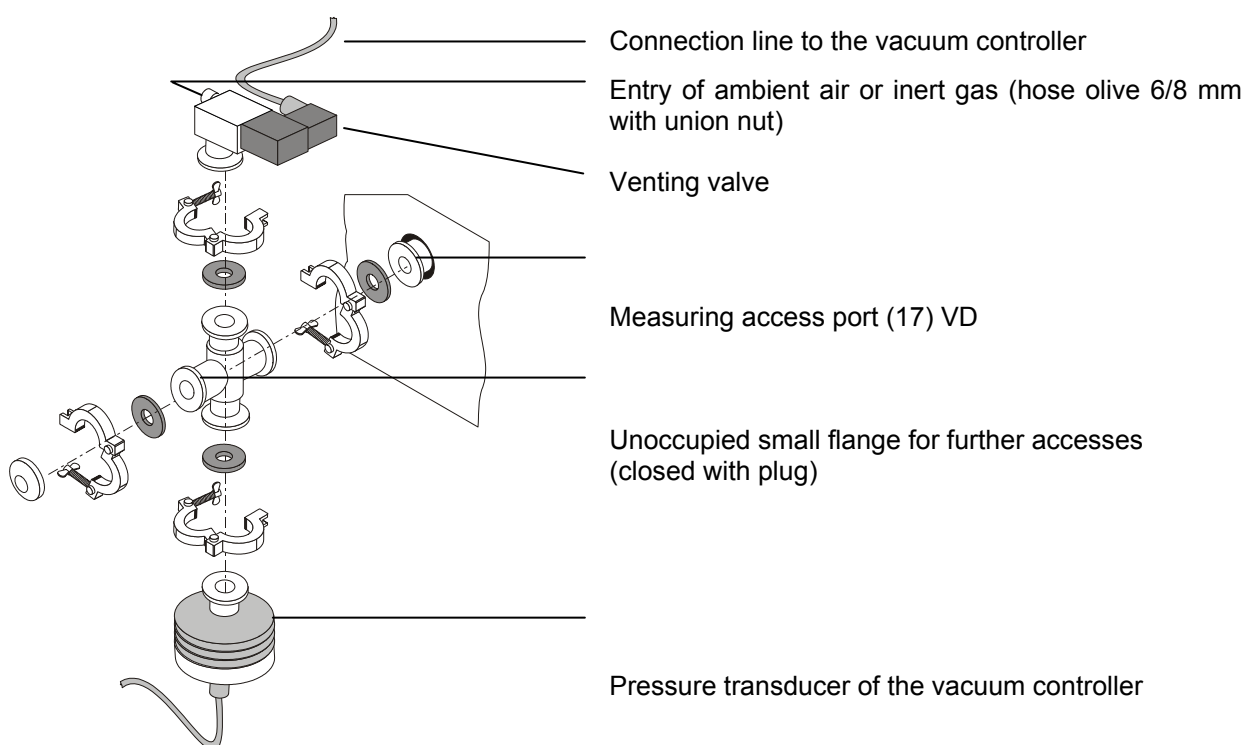

Figure 21: Connection of venting valve (option, Art. No. 8012-0233)
The venting valve connects the measuring access port (17) at the rear side of the vacuum drying oven as shown below (Figure 21). All necessary connection parts are included with Art no. 8012-0233.